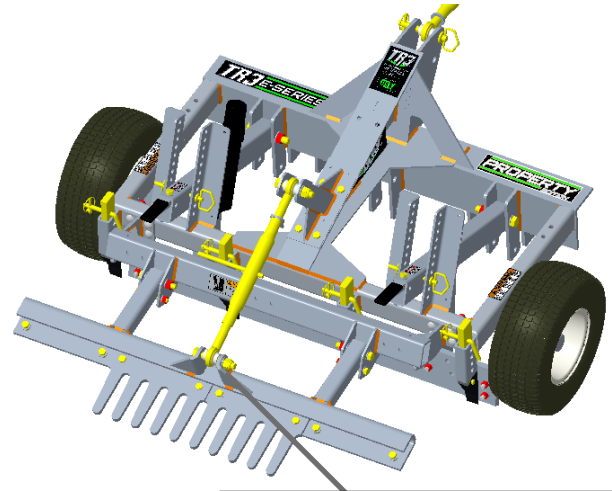
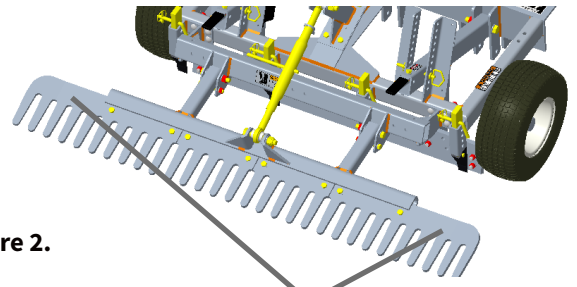
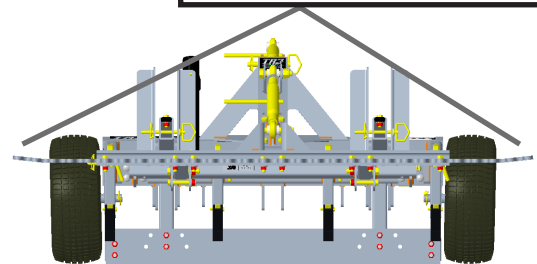

Figure 1.
Figure 2.
Figure 3.
1. Remove bolt (1-1/8" Hex) that secures the Toplink to the Rake attachment from Rake attachment mounting bracket. Position Toplink end to line up with Rake attachment brackets holes and slide bolt thru brackets and Toplink and tighten nut (see **Figure 1**).
2. For Units that are shipped with outer Rake sections removed (as shown in **Figure 1**), remove bolts and nuts (3/4" Hex) from Rake support bracket. Set End Rake sections on Rake support bracket and re-insert bolts and nuts and tighten (see **Figure 2**). Bent ends of Rake Sections are to be angled upwards (see **Figure 3**).